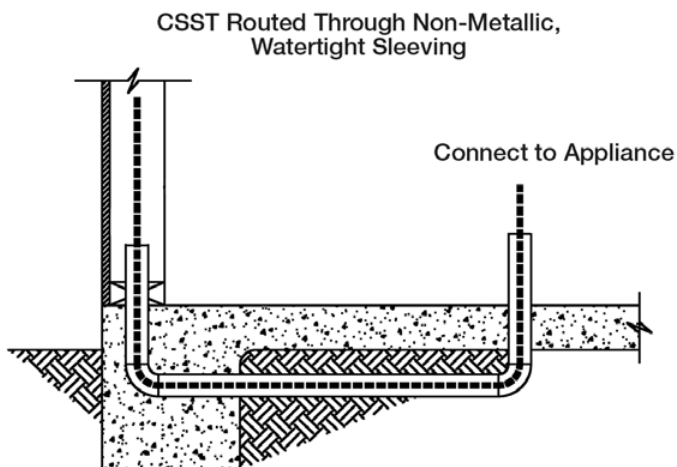

Fig. 4-87
- a) Gastite®/FlashShield® CSST shall not be buried directly in the ground or directly embedded in concrete (e.g. slab on grade construction, patio slabs, foundations and walkways). When it is necessary to bury or embed Gastite®/FlashShield® CSST, the tubing shall be routed inside a non-metallic, watertight conduit that has an inside diameter at least 1/2 inch larger than the O.D. of the tubing (Fig. 4-87). For ends of the conduit installed outdoors, the conduit shall be sealed at any exposed end to prevent water from entering.